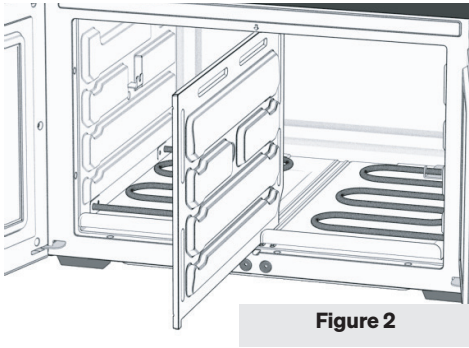

Figure 2
- To insert the divider into the appliance, slide the divider onto the rail inside the appliance (see Figure 2). Ensure that the indentation in the divider is facing upward. Push the divider all the way into the appliance.